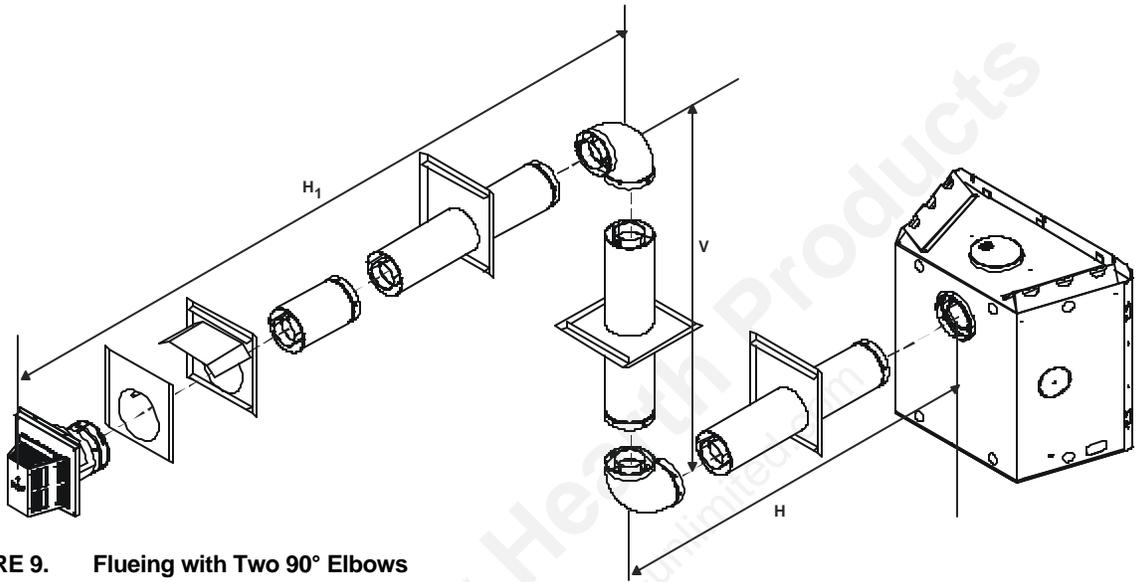

FIGURE 9. Flueing with Two 90° Elbows
Figures 9 and 10 show examples of possible installations using two (2) 90-degree elbows. Dimension V is listed as **MINIMUM** vertical dimensions, dimension H is listed as **MAXIMUM** beginning horizontal dimensions, and dimension H+H₁ is listed as corresponding **TOTAL MAXIMUM** horizontal dimensions.